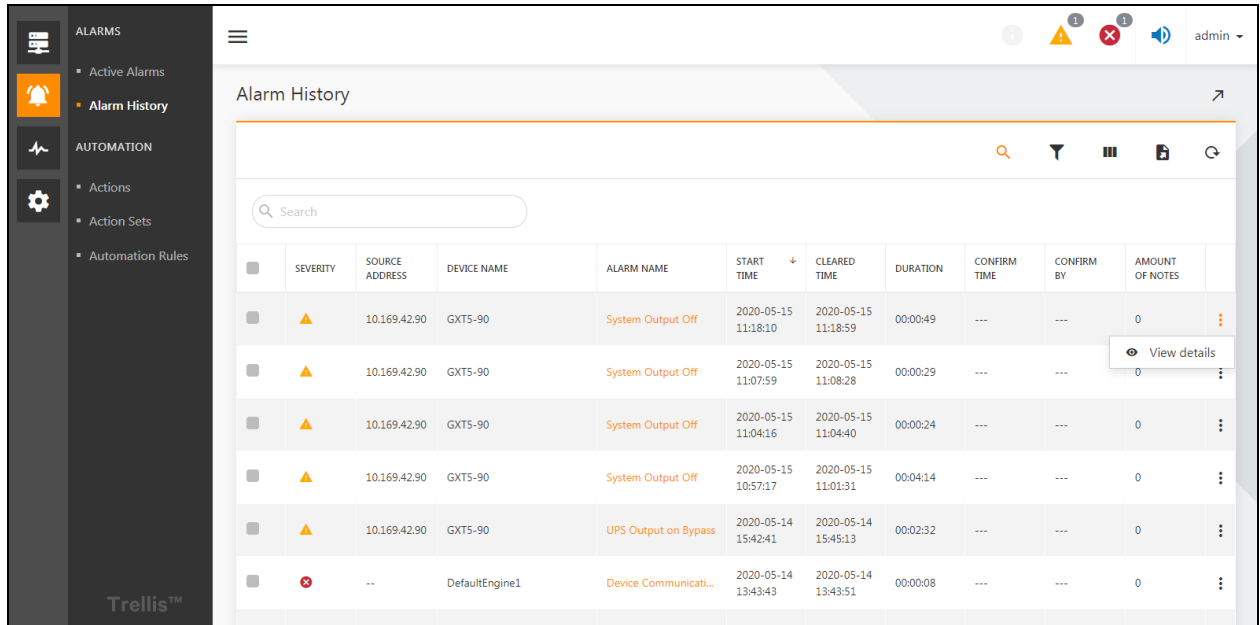

Figure 6.7
1. As shown in **Figure 6.7** on the next page, on the active alarms or alarm history page, click the  button on the right side of a warning line and click to view the details.
The contents of the file after download are shown in Figure 6.14 on the facing page . The header field contained in the file is consistent with the selection in Figure 6.7 on page 50 .